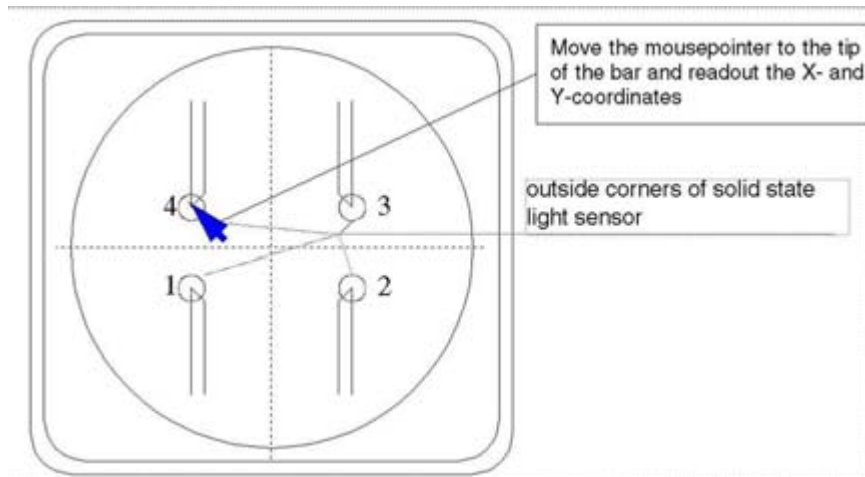

Fig. 21:
- Move the mouse pointer to the tip of the visible bars of the solid light sensor (Fig. 21 / p. 31).